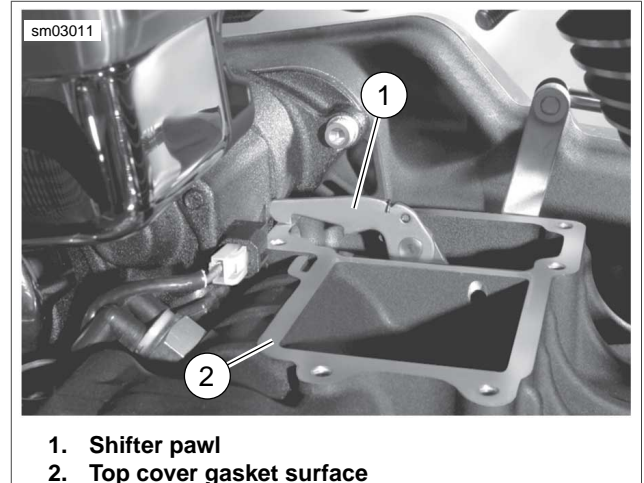

Figure 7-8. Set Shifter Pawl on Gasket
7. See Figure 7-8. Place shifter cam pawl on top cover gasket.